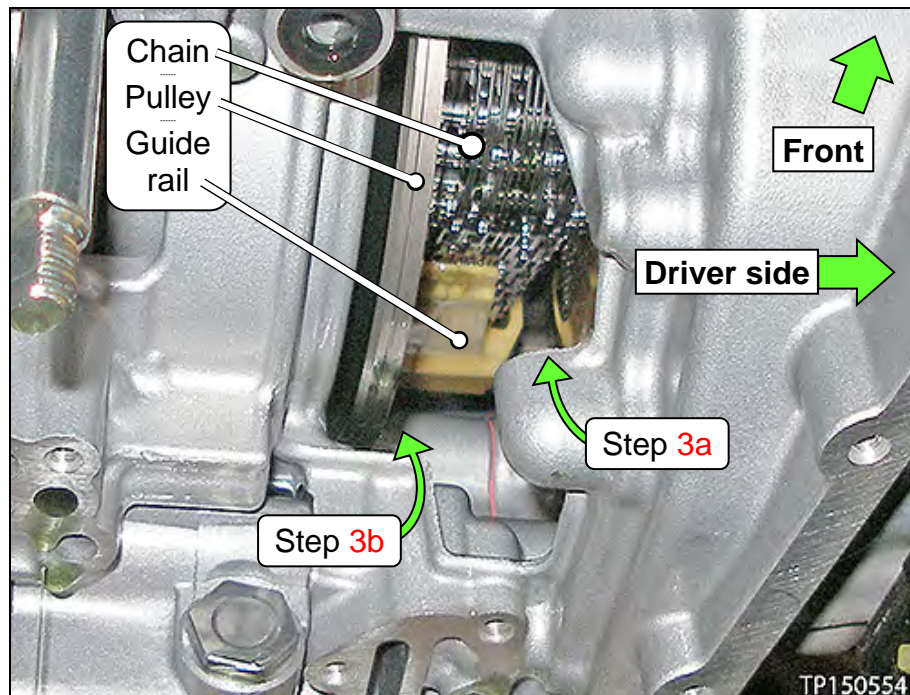

Figure 5
- Insert the camera lens behind the pulley between the guide rail and the pulley where shown in Figure 5 (also see page 10-11, Figure 6-9).